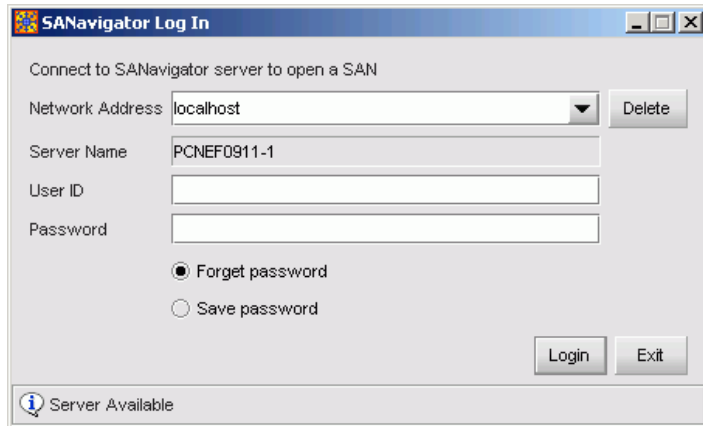

Figure D-25 SANavigator Log In or EFCM Log In Dialog Box
4. Type the default Windows 2000 user name and password and click **OK**. The backup server's Windows 2000 desktop opens and the *SANavigator Log In* or *EFCM Log In* dialog box displays (Figure D-25 on page D-18).
12. Type the default Windows 2000 user name and password and click *OK*. The backup server's Windows 2000 desktop opens and the *SANavigator Log In* or *EFCM Log In* dialog box displays (Figure D-25 on page D-18).